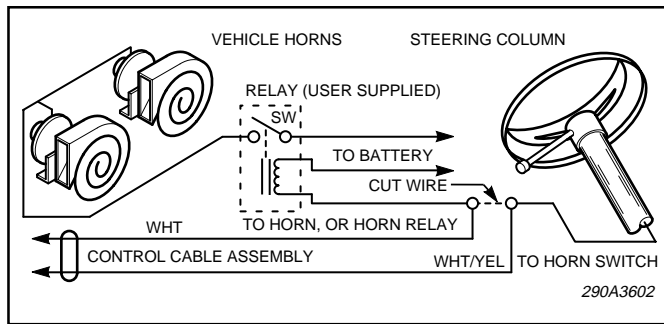

Figure 3-4. Horn Ring Connections.
2. See figure 3-4. Splice the white/yellow control cable wire (P5, pin 7) to the horn ring side of the wire that was cut in step 1. Insulate the splice with user-supplied wire nuts.
4. Obtain a SPST relay of sufficient contact current capacity to activate the vehicle horn. Refer to figure 3-4 while performing the following steps.